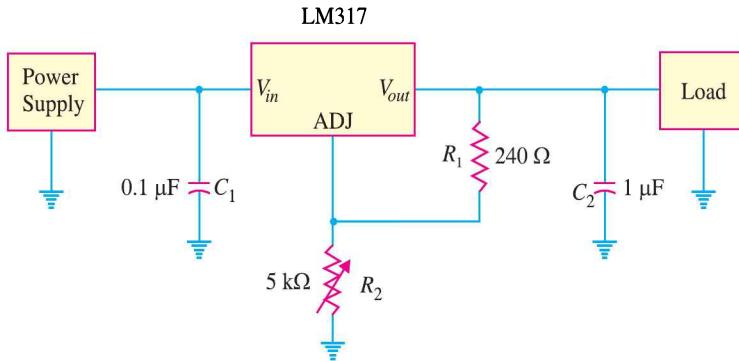

Fig. 17.30
**Example 17.20.** In Fig. 17.30,  $R_2$  is adjusted to  $2.4 \text{ k}\Omega$ . Determine the regulated d.c. output voltage for the circuit.